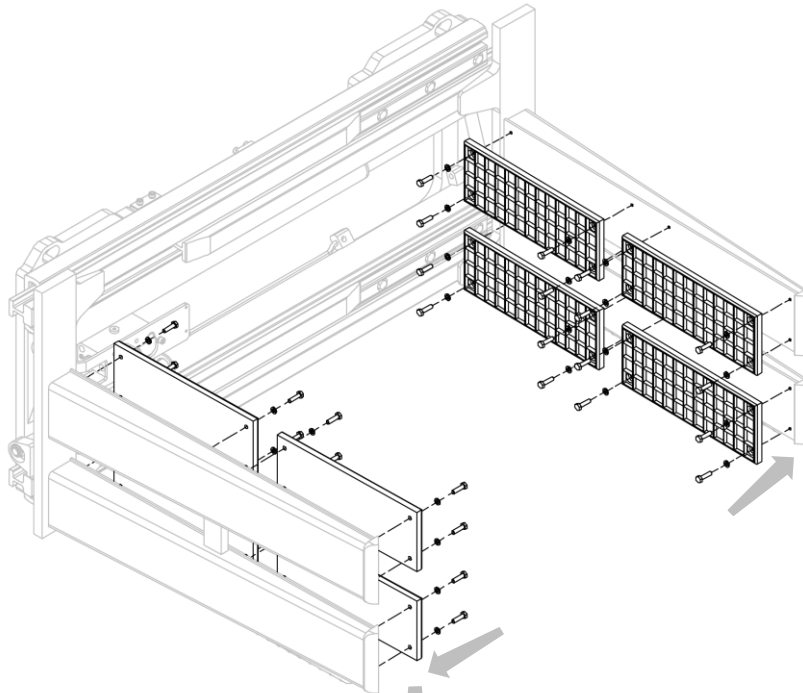
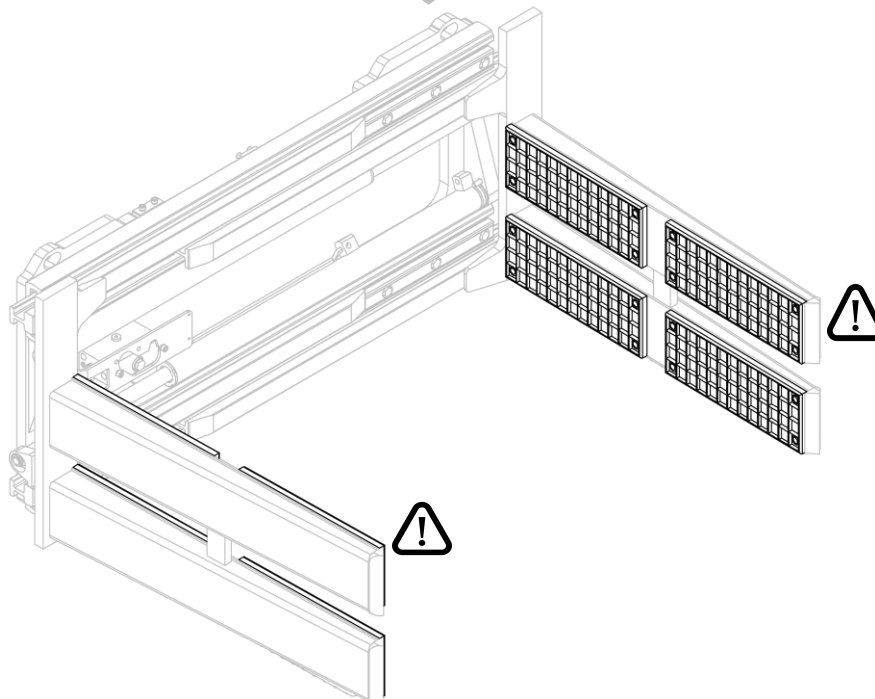

Figure 15
Figure 16
3. Install the rubber pads onto the forks using the corresponding bolts (see *Figure 15* and *Figure 16*).